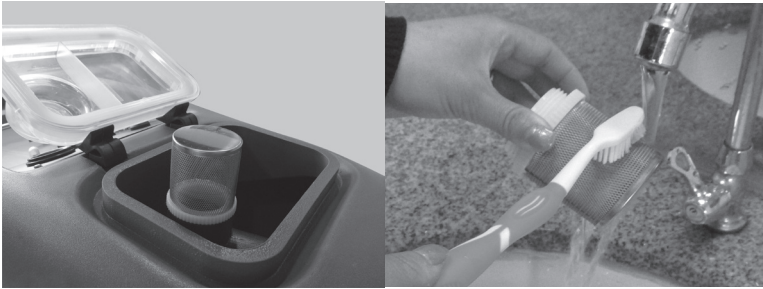

Figure 29
2. Remove and rinse the sewage screen filter within recovery tank (Figure 29).